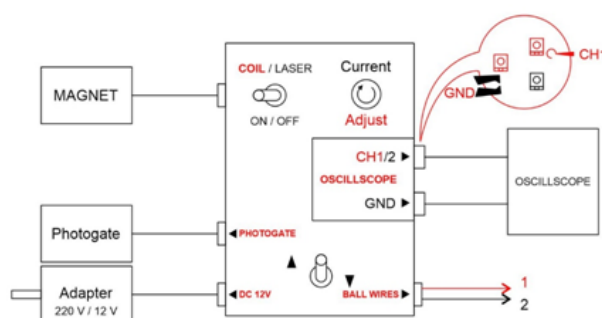

Figure 2
2. Remove hook (B) from the test output pin and connect to CH1 pin of the Experimental setup control box shown in Fig. 2